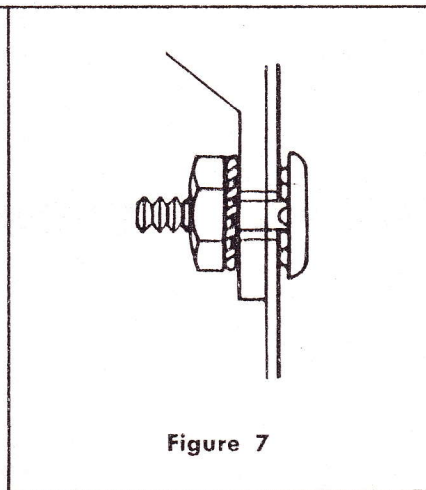

Figure 7
5. Install the recoil on the housing using the four studs and nuts supplied with the recoil starter (Fig. 7) and tighten firmly.